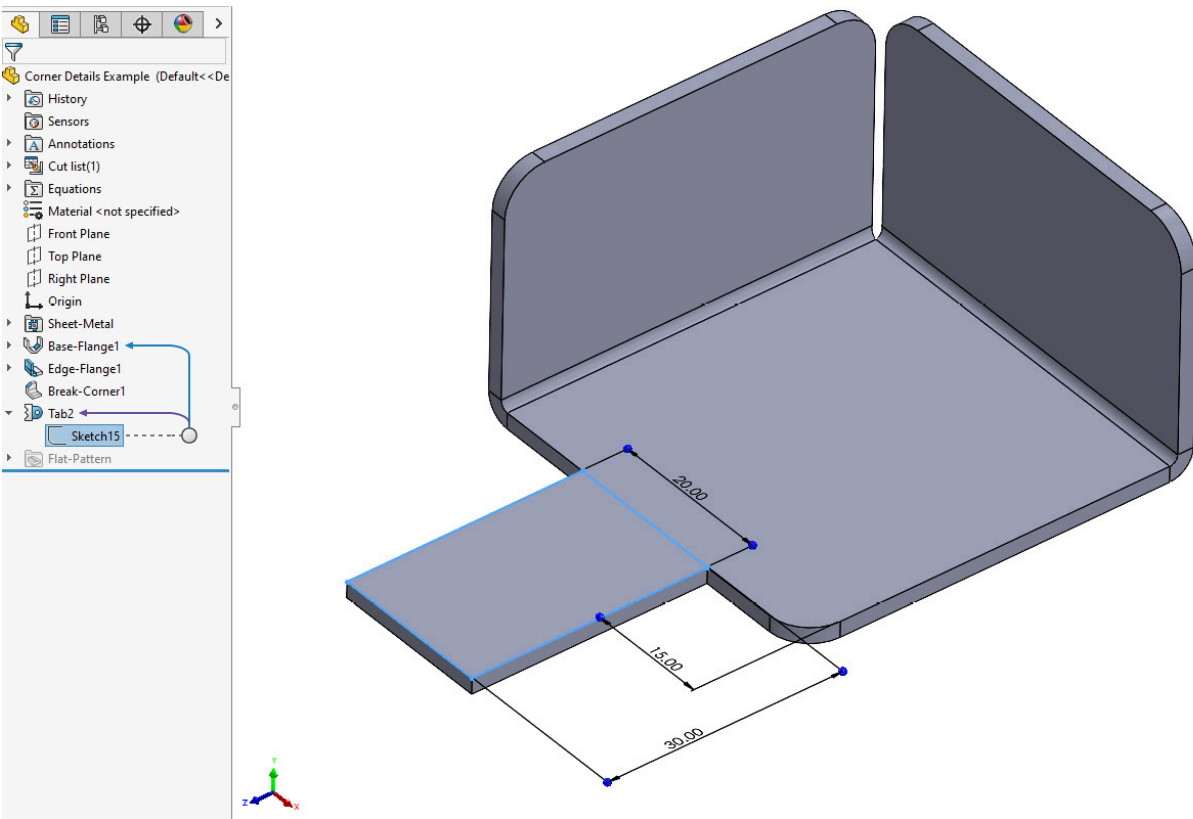

Figure 9.10: Adding a Tab to the Base Flange
1. Add a **Tab** to the **Base Flange**, by sketching a rectangle on the upper face, then selecting the **Base Flange/Tab** tool (Figure 9.10):